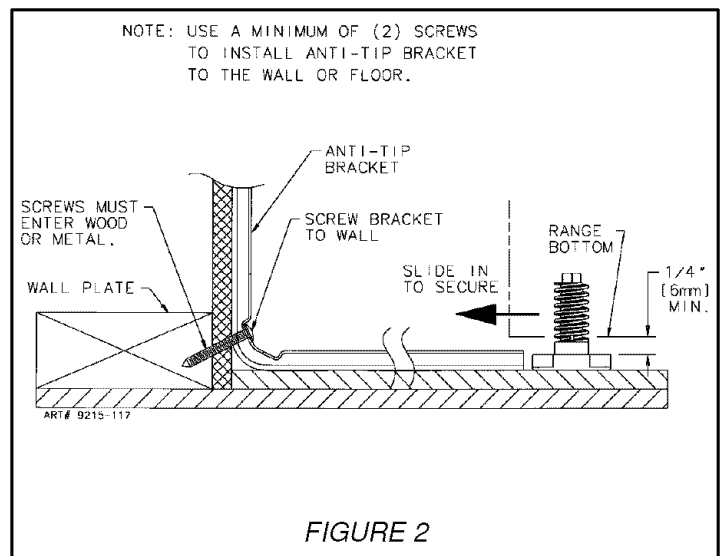

FIGURE 2
1/8" pilot hole in the center of each hole as shown in figure 2. (A nail or awl may be used if a drill is not available). Secure the ANTI-TIP bracket to the wall with the two screws provided as shown in figure 2. Proceed to STEP 3.
- Align the range to its designated location and slide it back into position. Make sure that the leveling foot is fully inserted into and secured by the ANTI-TIP bracket. Note: A minimum clearance of 1/4" is required between the range and the leveling foot that will engage the ANTI-TIP bracket, see figure 2.